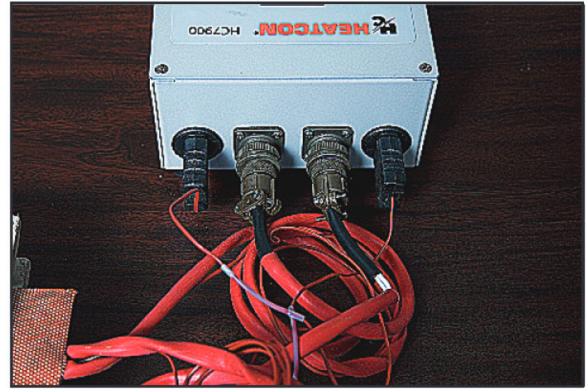

Figure 8
7. Make sure the controller is turned off and unplugged from the wall. Connect the heater power cords and thermocouple plugs on to the top of the HC7900 Controller. (Fig. 8)